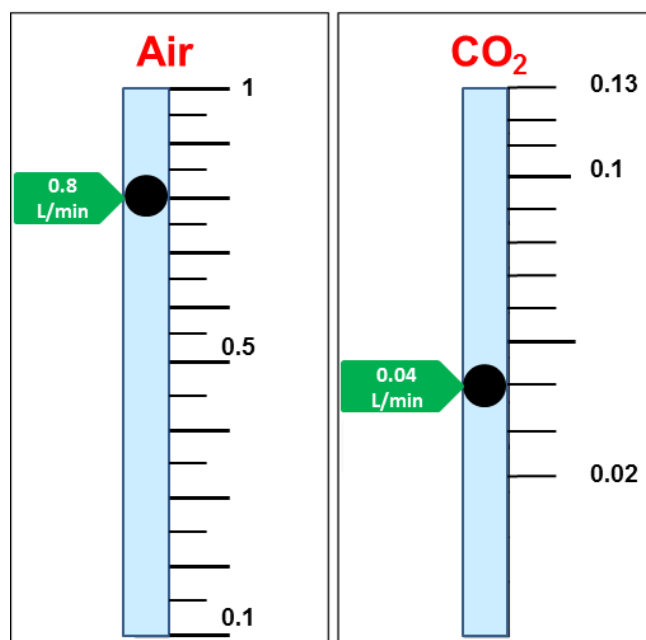

Figure 19. 2GF-MIXER - Graduated scales.
- Flow rate regulation means turning the knob until the floating-ball is placed in correspondence of the desired value (see Figure 19). Notice that the correct position of the floating-ball (black sphere in Figure 19) is having its middle point in correspondence of the desired graduate scale value.